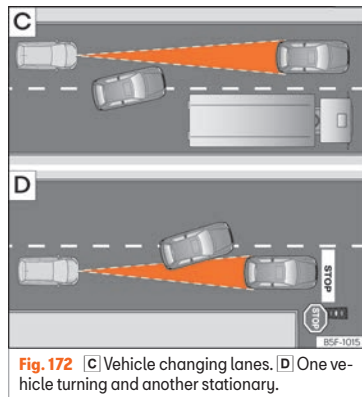

Fig. 172 [C] Vehicle changing lanes. [D] One vehicle turning and another stationary.
- Vehicles that move into your lane, a short distance from your vehicle »» Fig. 172 [C].
The ACC does not react to stationary vehicles. If, for example, a vehicle detected by the ACC turns or moves over and there is a stationary vehicle in front of it, the ACC will not react to the second vehicle »» Fig. 172 [D].